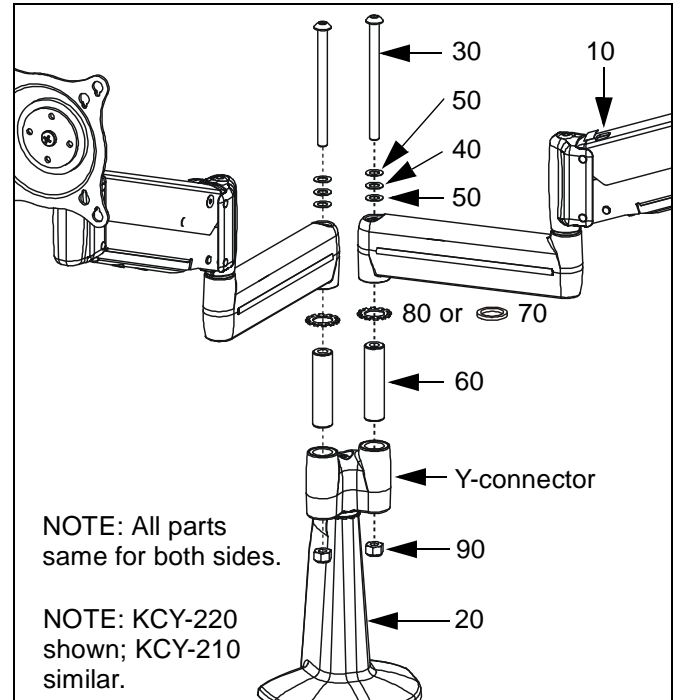
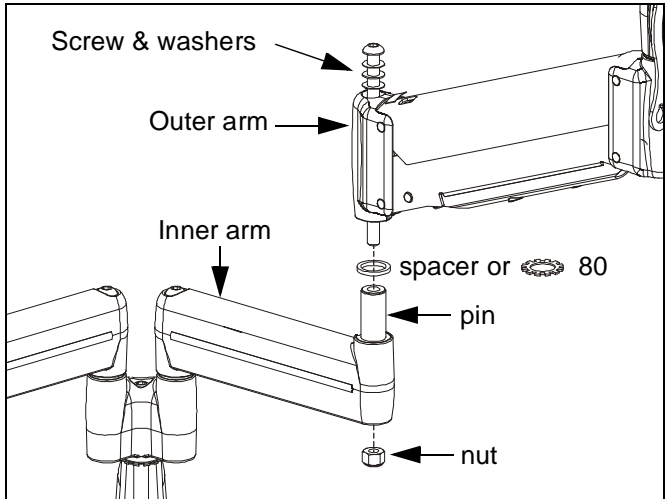

Figure 18: Multi-Dual Arm Assembly
Figure 20: Multi-Dual Arm Modification
- Insert pin (60) into Y-connector upper bore in mount (20) (See Figure 18).
- Install spacer (70) or washer (80), as desired, on pin (60) (See Figure 18).
- Insert arm assembly (10) on pin (60) (See Figure 18).
- While holding nut (90) in lower bore of Y-connector, insert screw (30) through washer (50), washer (40), arm assembly (10), and Y-connector, into nut (90) (See Figure 18). Loosely install screw (30) using 3/16" hex key.
1. Using 3/16" hex key, loosen screw until nut can be removed (See Figure 20). Retain nut. Screw and washers may remain in outer arm.
3. Remove spacer from pin (See Figure 20).
4. Install washer (80) on pin (See Figure 20).
5. Re-install outer arm (with screw and washers) on pin (See Figure 20).
6. Insert and hold nut in lower bore of inner arm (See Figure 20).
7. Tighten screw as required using 3/16" hex key (See Figure 20).
CAUTION: If washer (80) has been used to assemble KCY-210/-220 arms, then forced movement of arms without loosening screw (30) will damage arm and/or Y-connector (See Figure 18)(See Figure 20).